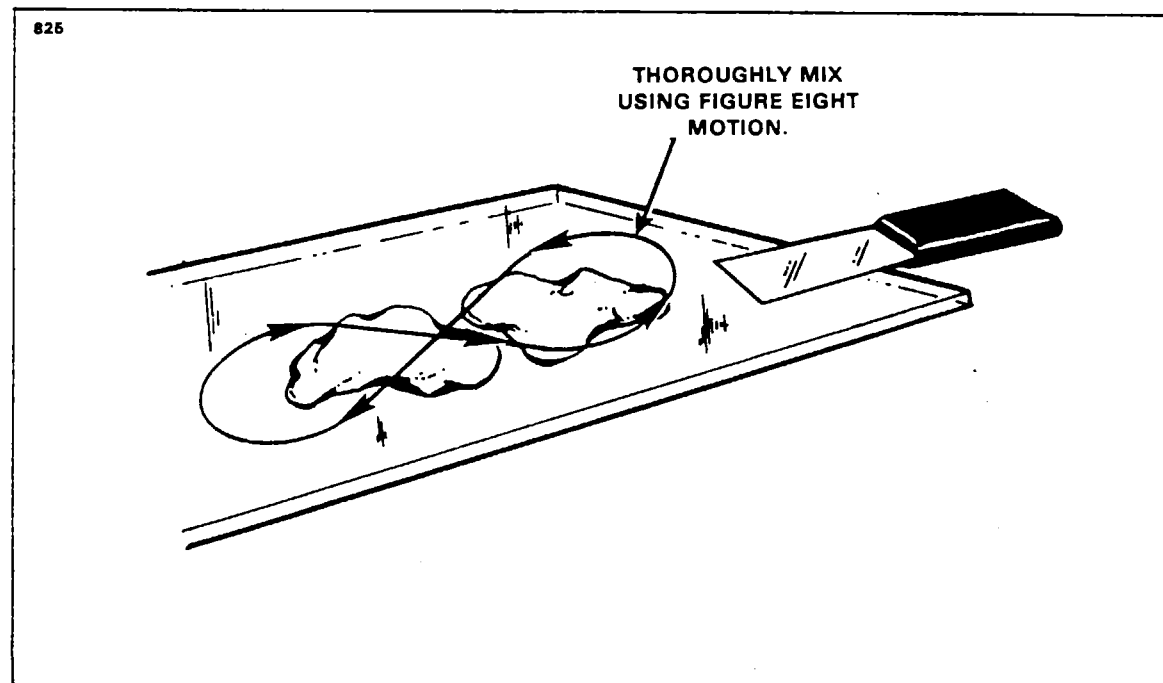

Figure 4-5. Mixing of Epoxy Patching Compound
6. The patching compound is mixed in equal portions on a hard flat surface using a figure eight motion. The damaged area is cleaned with perchlorethylene or VM&P Naphtha prior to applying the compound. (Refer to Figure 4-5.)